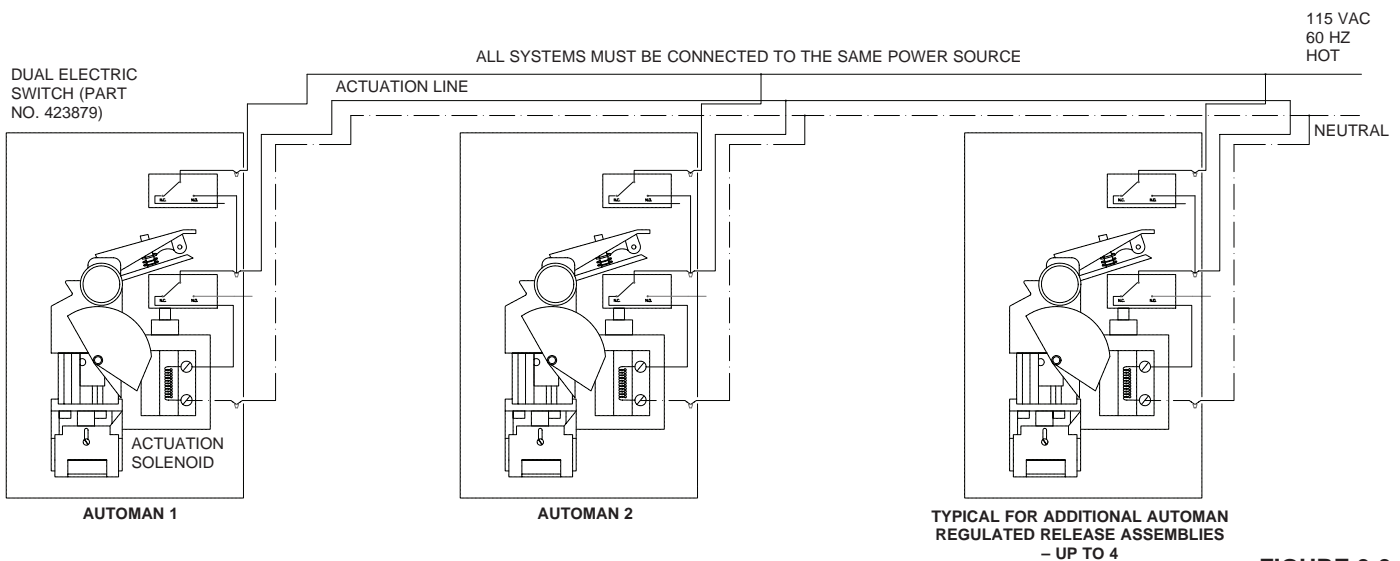

FIGURE 9-3
1. Simultaneous operation of all independent hood, duct, and appliance protection systems. See Figure 9-3.